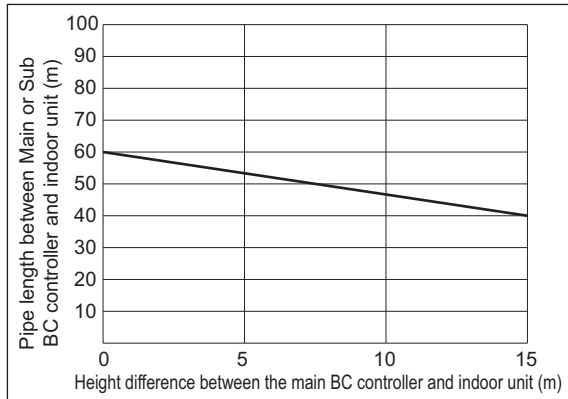

Fig. 1
- \*1. When the piping length or the vertical separation exceeds the limit specified in Fig. 1, connect a sub BC to the system. The restriction for a system with a sub BC connection is shown in Fig. 2.
When using indoor models P140 or larger, the restrictions shown in Fig. 1 cannot be exceeded.